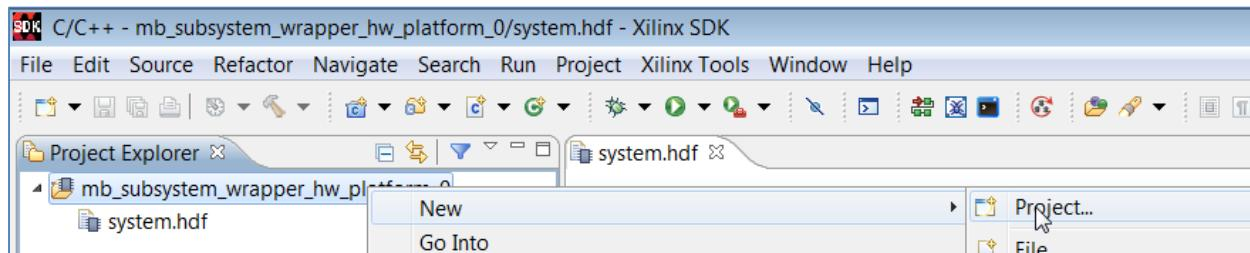

Figure 138: SDK New Project Selection
1. In SDK, right-click **mb_subsystem_wrapper_hw_platform_0** in the Project Explorer and select **New > Project**, as shown in Figure 138.